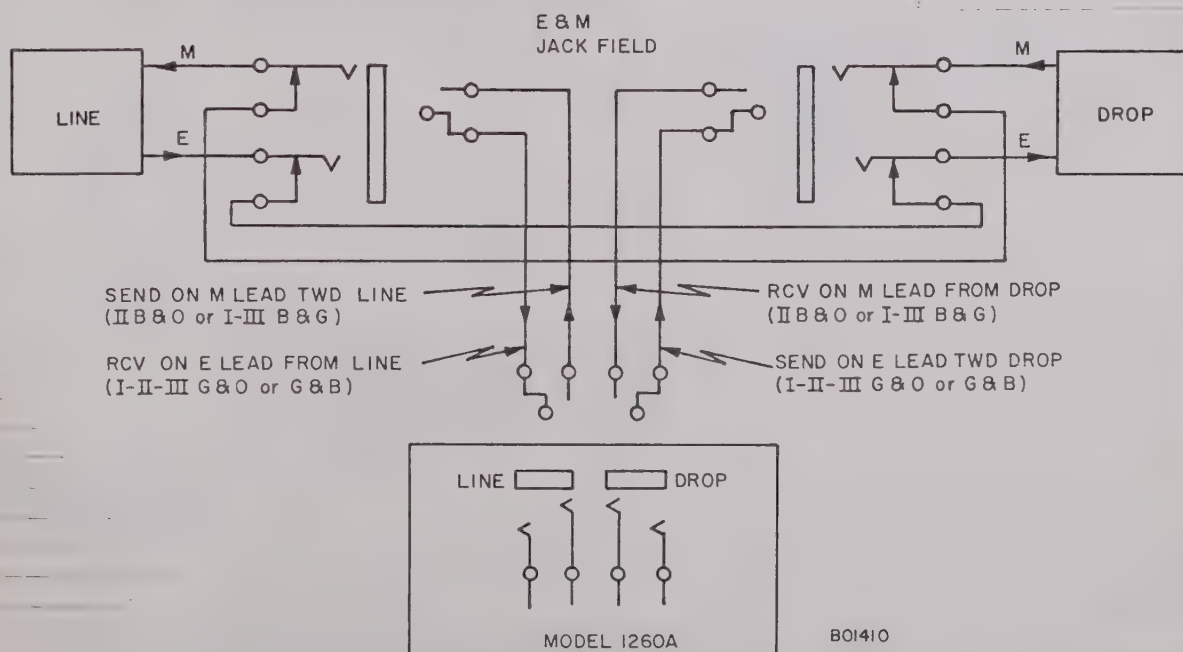
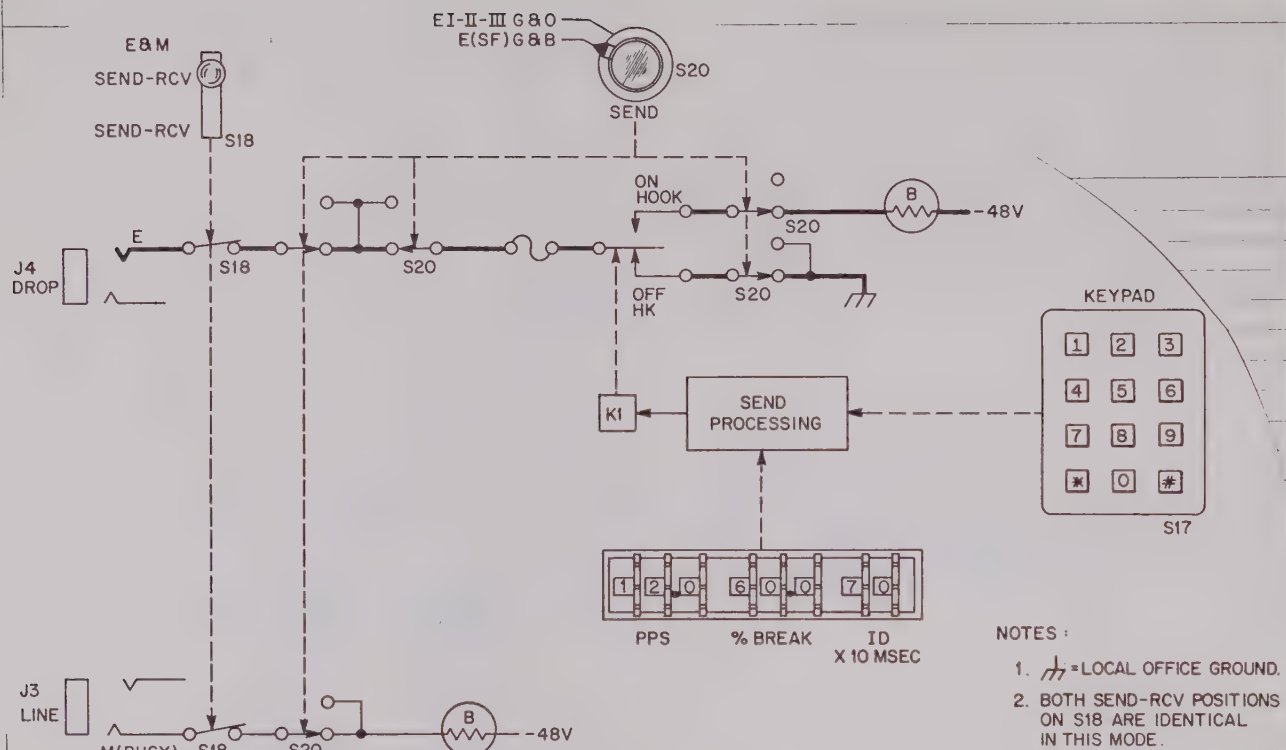
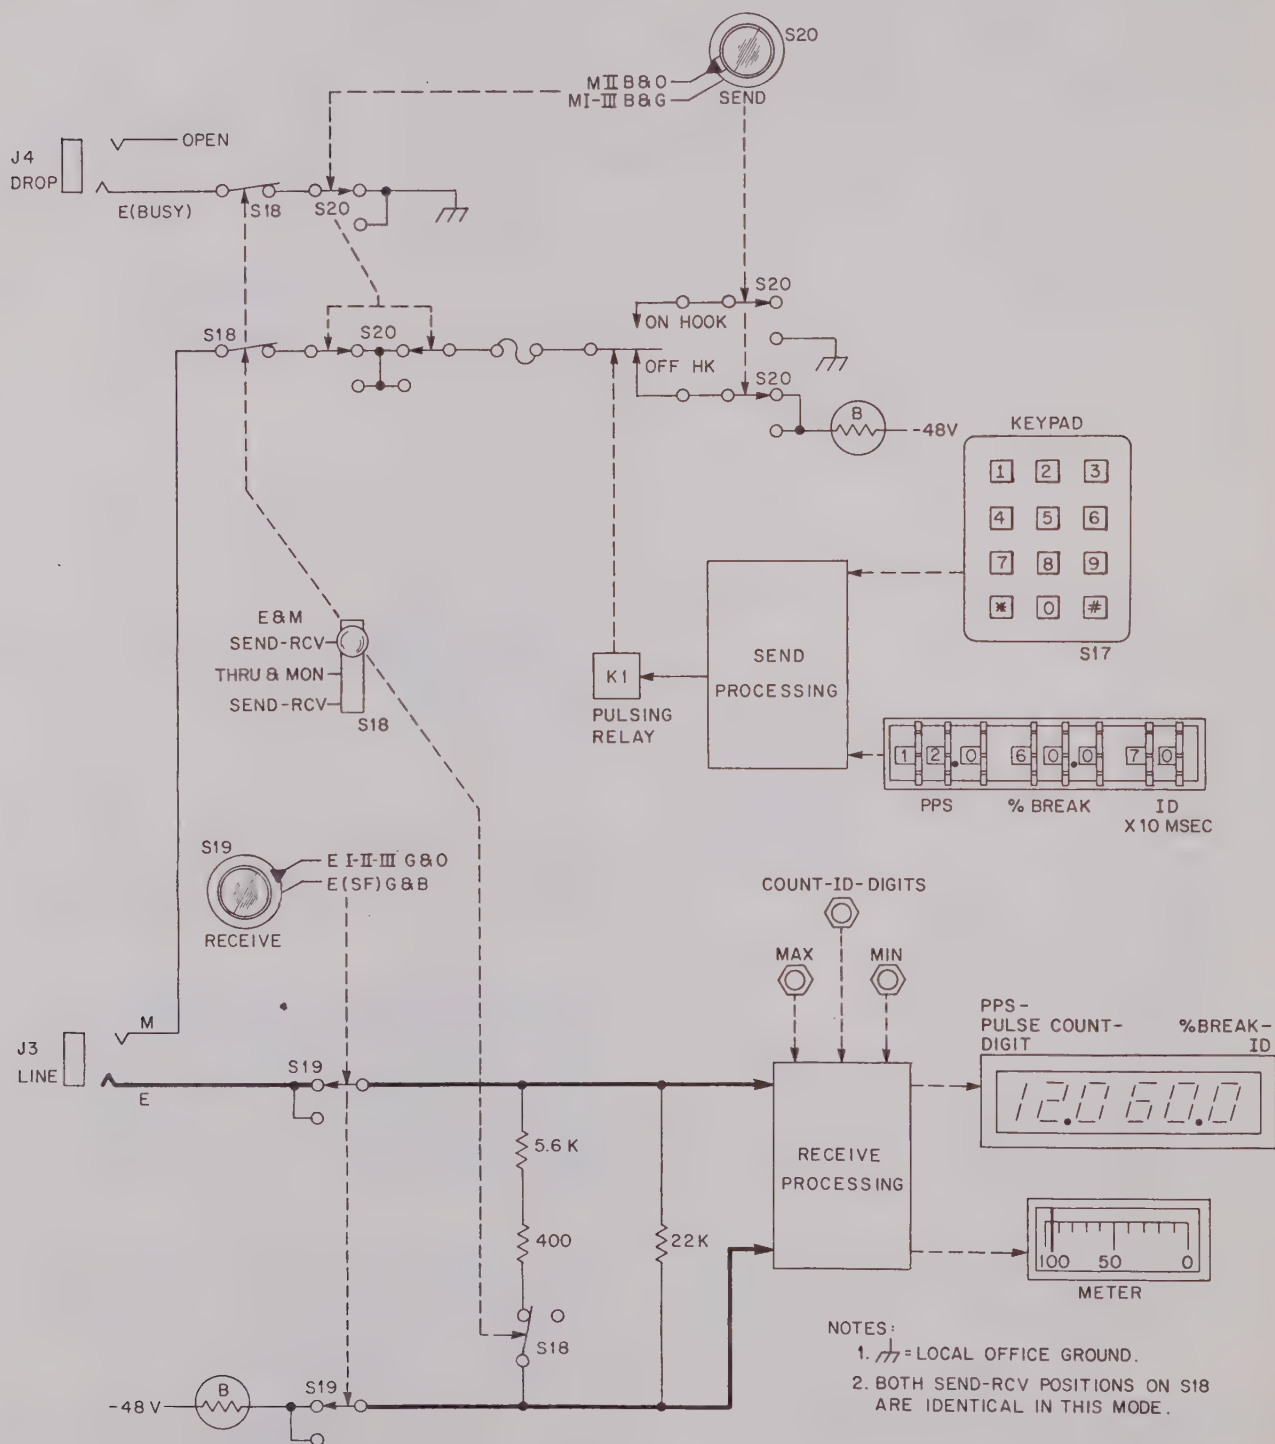

Figure 4-6. Typical Model 1260A Interface With E&M Circuits
Figure 4-7. Sending On The E Lead Toward The Drop
Figure 4-12. Receiving On The E Lead From The Line
4.48 To send only (either on the M lead toward the line or on the E lead toward the drop) perform the following steps. See Figure 4-6 for an illustration showing a typical interface between the 1260A and an E&M jackfield. Figures 4-7 and 4-8 illustrate the E&M LINE and E&M DROP jacks in relation to the internal circuits that define the conditions at the jacks that can be measured.
4.52 To receive only (on the E lead from the line or on the M lead from the drop) perform the following steps. See Figure 4-6 for the illustration showing a typical interface between the 1260A and an E&M jack-field. See Figures 4-12 and 4-13 for the illustrations that show the relationship between the LINE and DROP jacks and the internal circuits that define the conditions at the jacks that can be measured.
4.56 When the circuit to be pulsed and the pulsing contacts to be measured are within a reasonable distance of each other, a single 1260A can be used to perform both functions simultaneously. The circuits to be pulsed and measured can also be totally independent. See Figures 4-7, 4-8, 4-12, and 4-13 for the jack